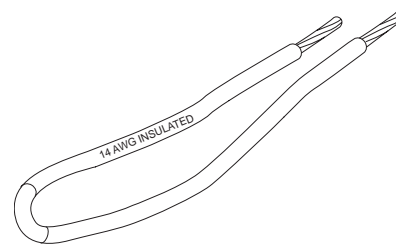
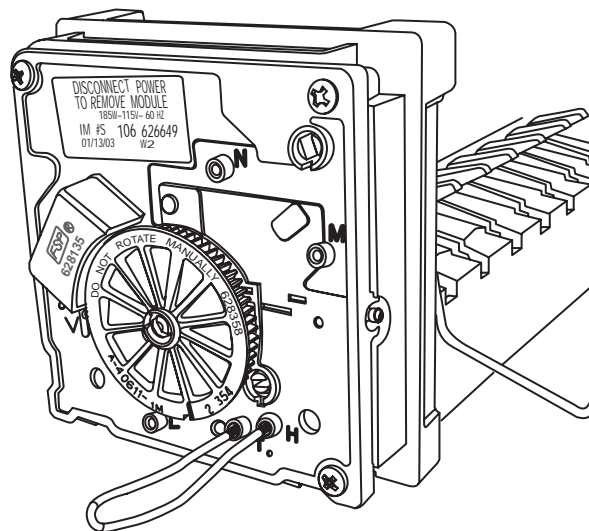
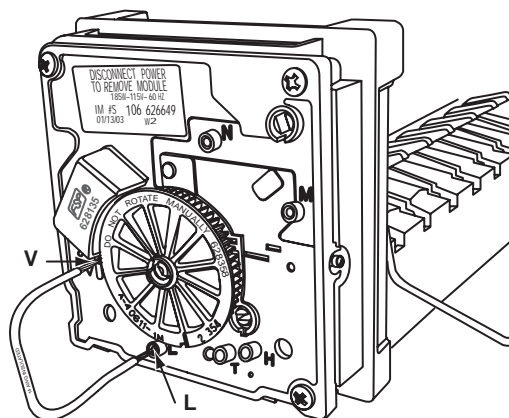

Figure 52. Jumper wire
Figure 53. Cycle testing ice maker
Figure 54. Checking water valve operation
5. Jump terminals T and H. Use a 14 AWG jumper wire with 1/2 inch insulation stripped from ends. Jumper wire is shown in Figure 52. The jumping of T and H is shown in Figure 53.
2. Jump test point V and L. See Figure 54. Use a 14 AWG jumper wire with 1/2 inch insulation stripped from each end (as shown in Figure 52). The solenoid should click and buzz if it is operating properly. If the solenoid does not click and buzz, replace the water valve (see page 50).